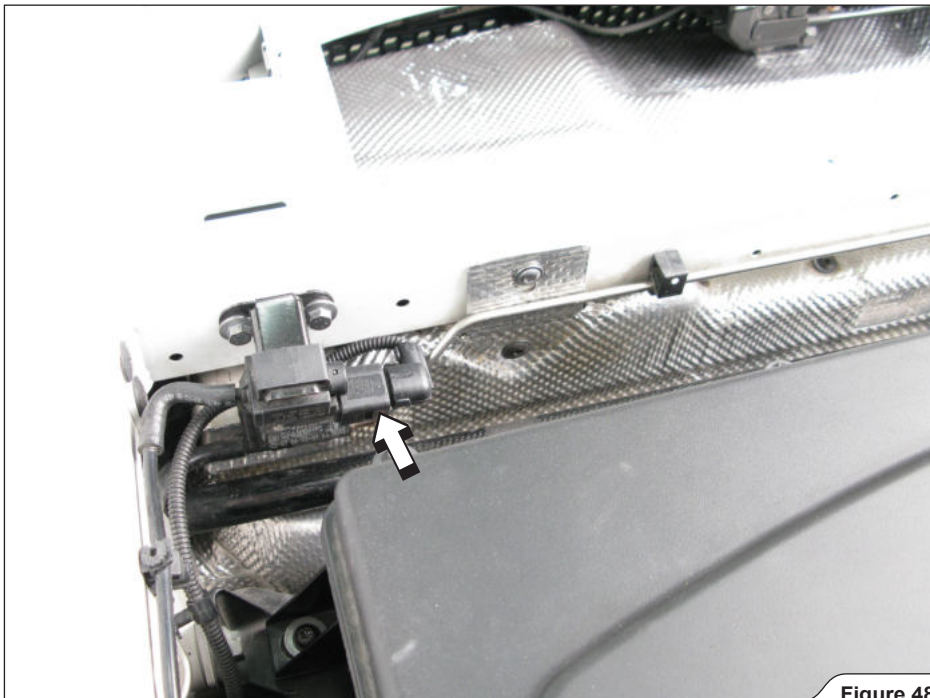

Figure 48
12. **For optional wireless kit only:** locate the electromagnetic valve in the right side of the engine compartment. Disconnect the marked wiring harness-connector (**Figure 48**).